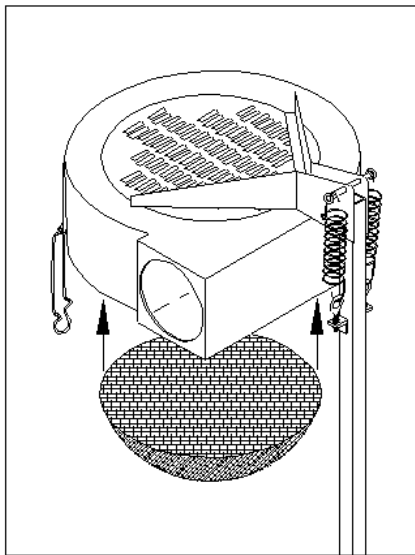

Fig. 12
12. Fit filter (17) over filter support assembly (16). **Fig. 12**